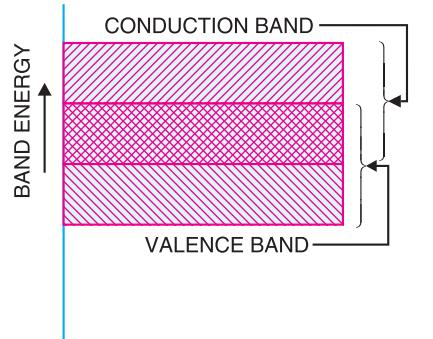

Fig. 4.6
**(ii) Conductors.** Conductors (*e.g.* copper, aluminium) are those substances which easily allow the passage of electric current through them. It is because there are a large number of free electrons available in a conductor. In terms of energy band, the valence and conduction bands overlap each other as shown in Fig. 4.6. Due to this overlapping, a slight potential difference across a conductor causes the free electrons to constitute electric current. Thus, the electrical behaviour of conductors can be satisfactorily explained by the band energy theory of materials.